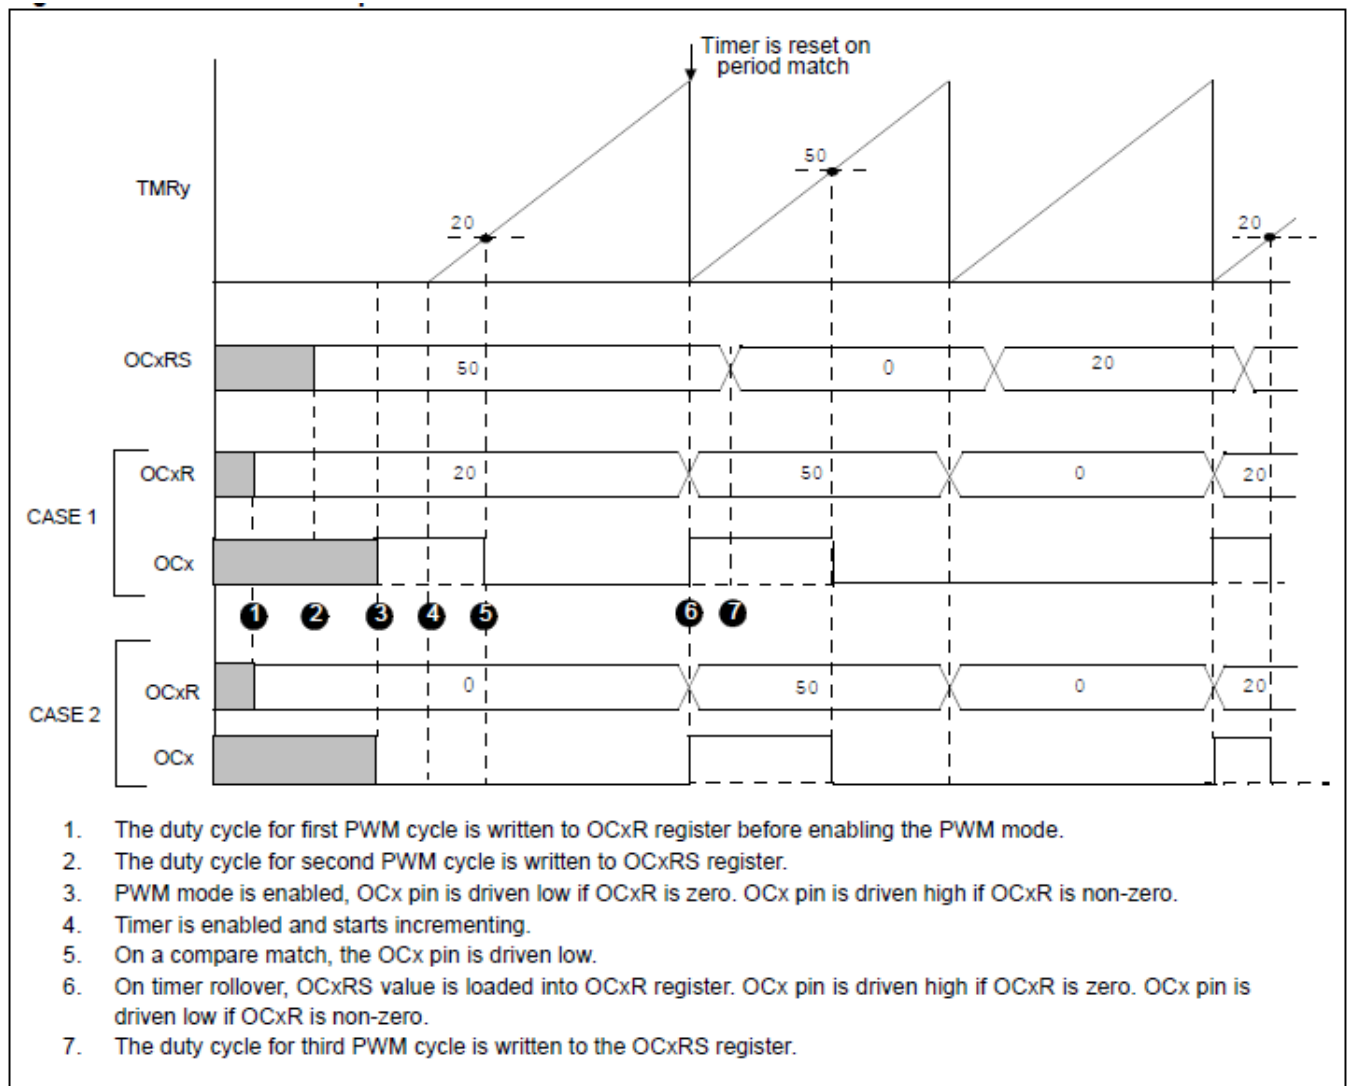

Figure 2: Output Compare Operation: PWM mode
Output Compare Operations: The Output Compare has 7 operating modes of which "PWM mode without fault protection" will be used in CS-454/654 labs. Figure 2 illustrates the output compare operation in this mode. It works as follows:
- Driven high if the OCxR register value is non-zero (refer to Case 1 in Figure 2)
- Driven low if the OCxR register value is zero (refer to Case 2 in Figure 2)